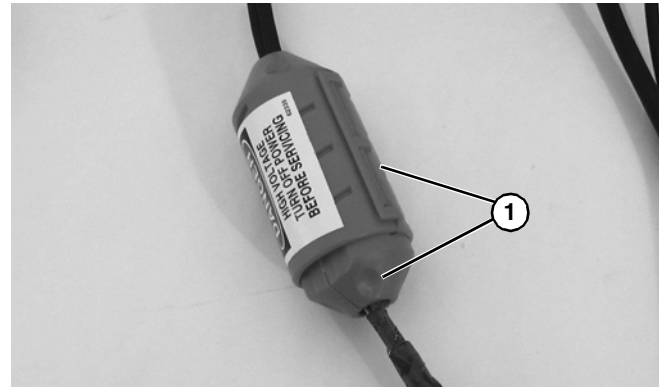

Figure 37
1. Twist covers (Figure 37, item 1) apart.